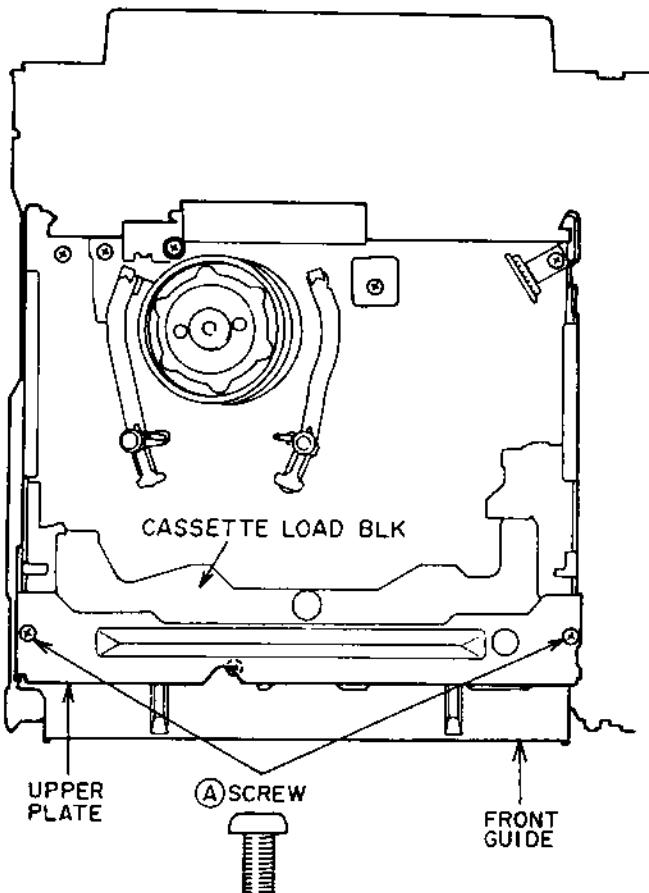

Fig. 4-1
- 1) Remove the two **(A)** screws on the UPPER PLATE as shown in Fig.4-1 then remove the UPPER PLATE.